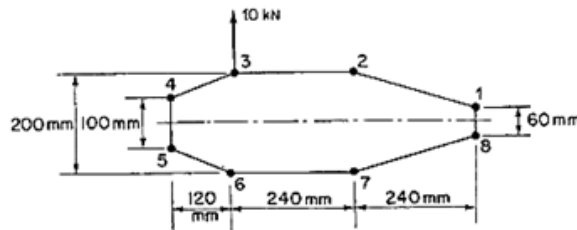

Figure 6
8. (a) The thin-walled single cell beam shown in Figure 6 has been idealized into a combination of direct stress carrying booms and shear stress only carrying walls. If the section supports a vertical shear load of 10 kN acting in a vertical plane through booms 3 and 6, calculate the distribution of shear flow around the section [7M]